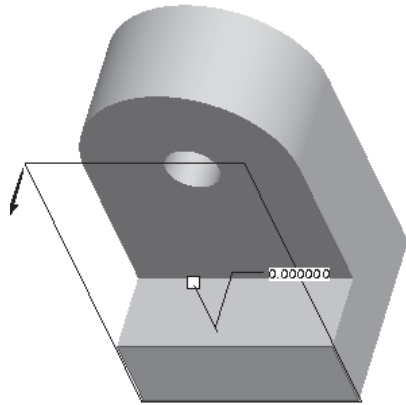

Figure 4-63 The selected face and the arrow showing the positive direction of datum plane
- Create the third feature on an offset plane, refer to Figures 4-63 through 4-68.
- Using the left mouse button, select the front face of the second feature highlighted in Figure 4-63. The boundary of the selected front face is highlighted red in color.